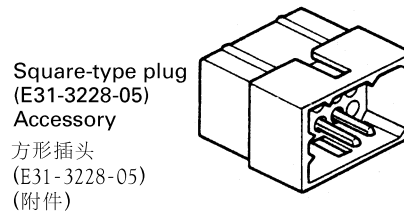

Fig. 4-1 / 图 4-1
1. Remove the connector with jumper from the external speaker connector on the rear panel of the radio. (Fig. 4-1)
1. 从本机后侧面板的外部扬声器连接器上拆下连接器和跳接器 (图4-1)。